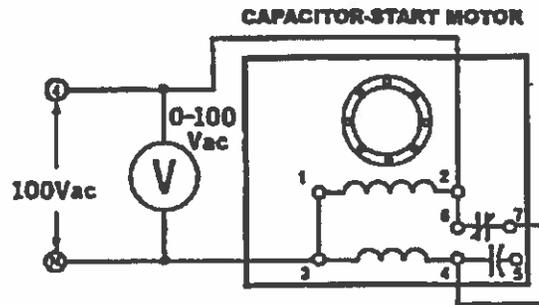

Figure 32-1.
7. Connect the circuit shown in Figure 32-1. The centrifugal switch is connected in series with the auxiliary winding and both windings are connected in parallel across the 100 V ac power source terminals 4 and N. Note that the capacitor, connected between terminals 4 and 5, is not used when the module is operated as a split-phase motor.